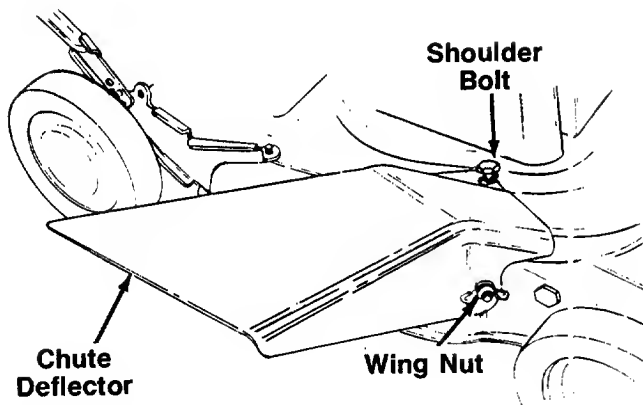

FIGURE 11.
2. Secure the front of the deflector to the bolt protruding from the deck with one wing nut. See figure 11.